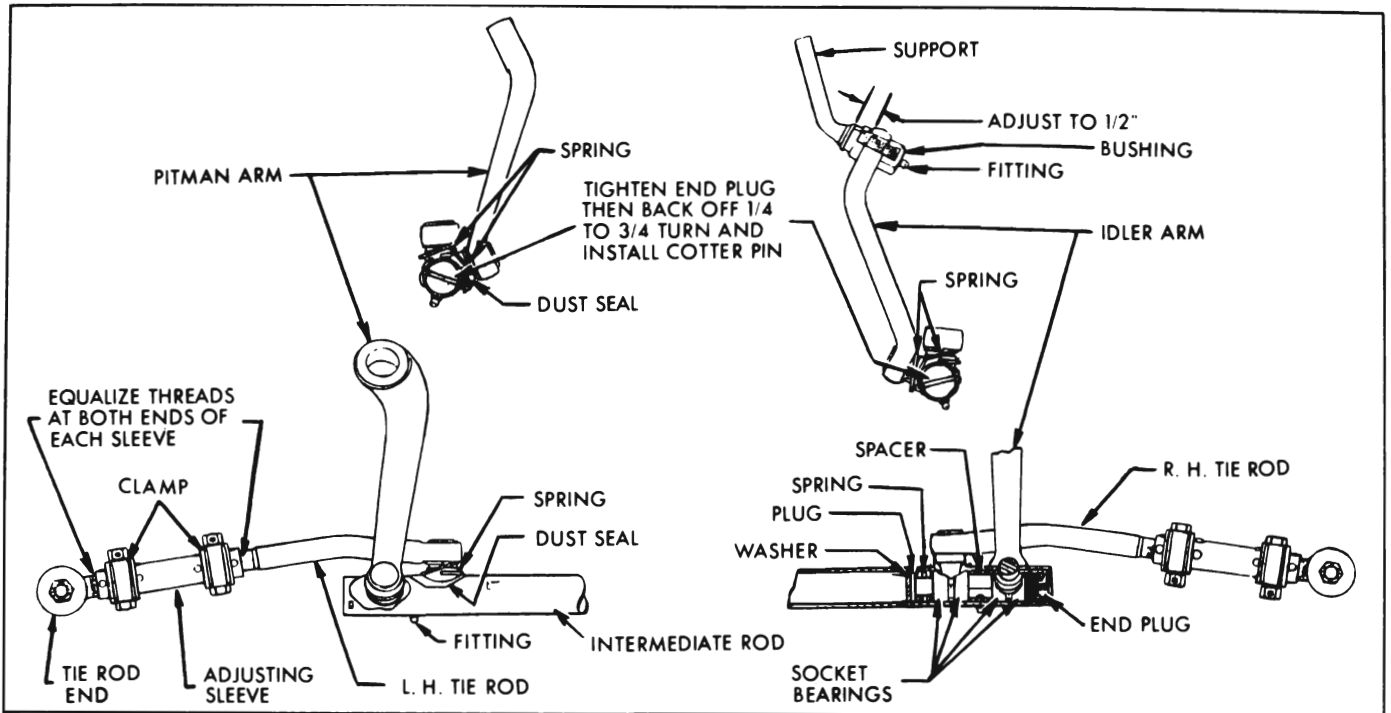

Figure 8-4—Manual and Power Steering Linkage
Intermediate Rod Plug Adjustments	See fig. 8-4
The parallelogram type steering linkage is used to connect both front wheels to the steering gear pitman arm. As shown in Figure 8-4, the right and left tie rods are connected to a tubular intermediate rod. The left end of the intermediate rod is supported by the pitman arm and the right end is supported by an idler arm which pivots on a support attached to the front suspension cross member. The pitman and idler arms are always parallel with each other and move through symmetrical arcs.
The tie rod end, which connects each tie rod to a steering arm, is a spring-loaded ball stud and socket unit assembly. A rubber dust seal fits over the stud where it emerges from the socket, to provide protection against entrance of dirt and water. The tie rods are connected to the tie rod ends by internally threaded sleeves which provide for toe-in adjustment. The sleeves are slotted and provided with clamps at each end to lock them in place. See Figure 8-4.
This requires proper location of the idler arm on its support so that the idler arm ball socket will be level with the pitman arm ball socket. The support must be threaded into the idler arm bushing until the distance from the shoulder of support to the nearest face of idler arm is 1/2" as shown in Figure 8-4. When the idler arm is installed on the support, it must be free to rotate approximately 90 degrees in both directions. After any adjustment of idler arm on its support the front wheels should be checked to insure proper toe-in.
3. Jack up car and disconnect pitman arm from intermediate rod by unscrewing end plug until socket bearings will release ball socket. See Figure 8-4.
3. Install pitman arm socket in intermediate rod being sure that socket bearings are properly seated around socket. Adjust end plug as shown in Figure 8-4 and install cotter pin.